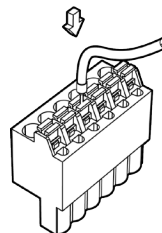

Figure 1
5. Insert the crimped cable into the connection terminals directly until the cable is not easily pulled out (A slight pull is allowed). *Figure 1*.